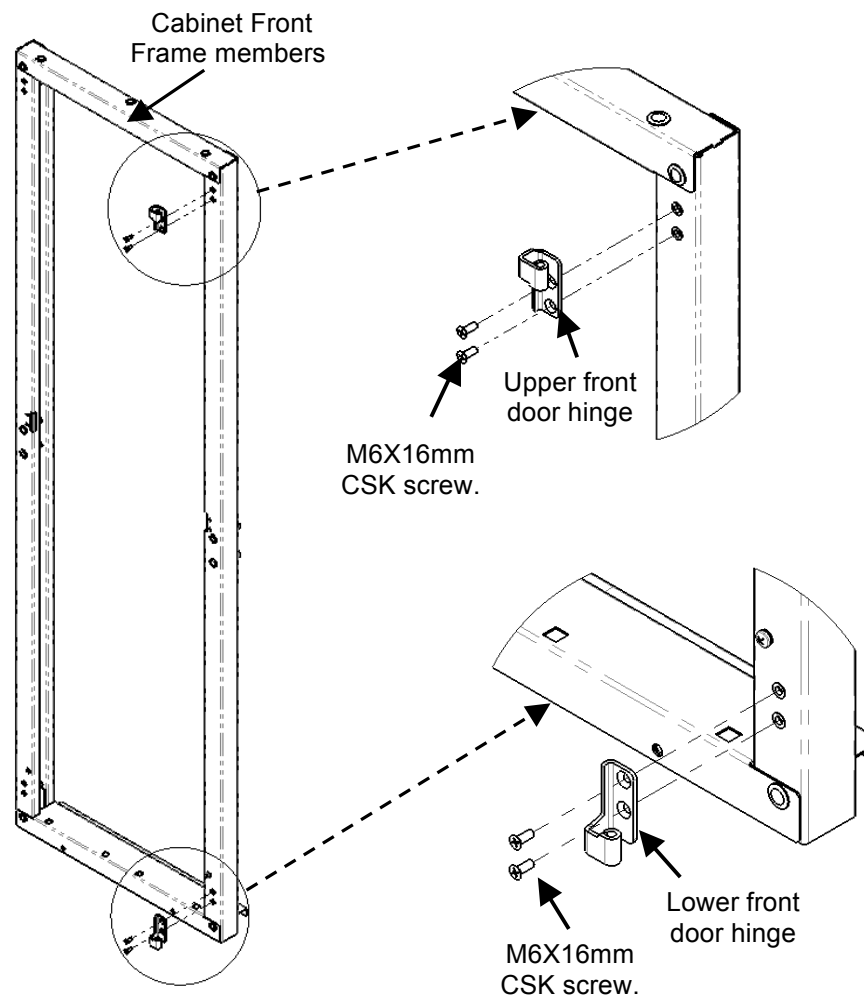

Fig. 1
2. Attach each hinge to the frame with two M6X16mm CSK screws in orientation shown (Fig 1). (Hinge orientation is opposite if placing hinges on the left.)